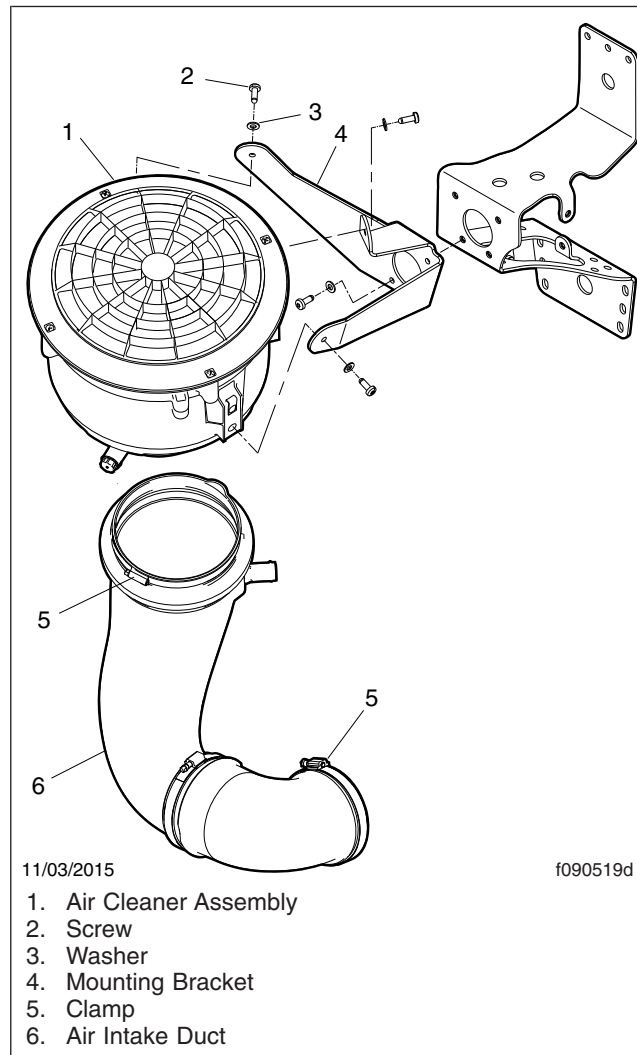

Fig. 1, Air Cleaner Assembly Installation
2. Loosen the clamps at the air cleaner assembly and turbocharger, and remove the air intake duct. See Fig. 1.
2. Loosen the clamps at the air cleaner assembly and turbocharger, and remove the air intake duct. See Fig.1.